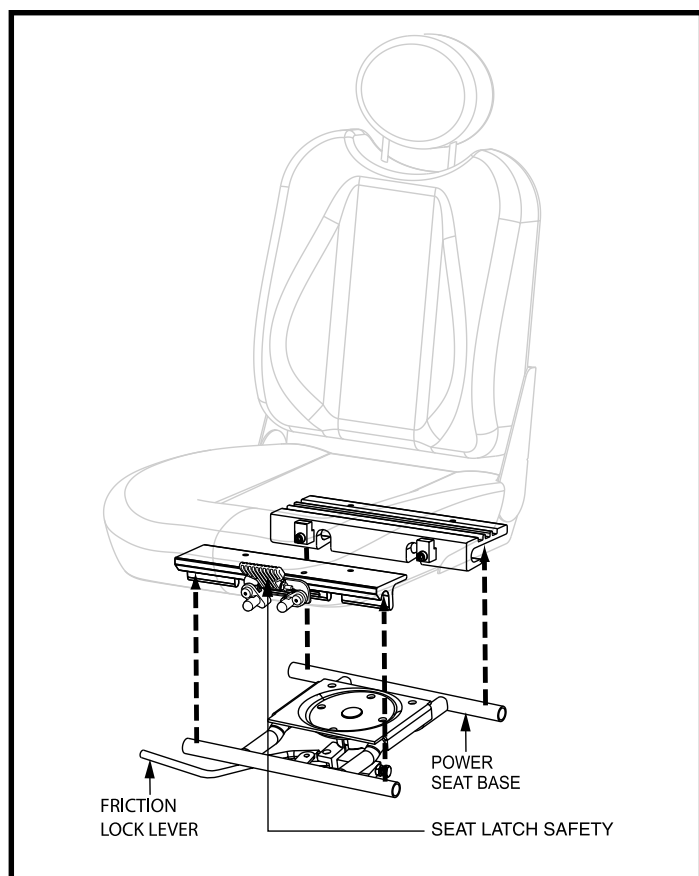

Figure 10. Universal Mounting System (Power Seat)
3. Remove both extrusions from the bottom of the seat. See figure 10.